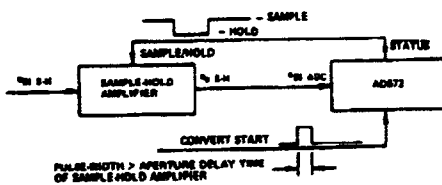
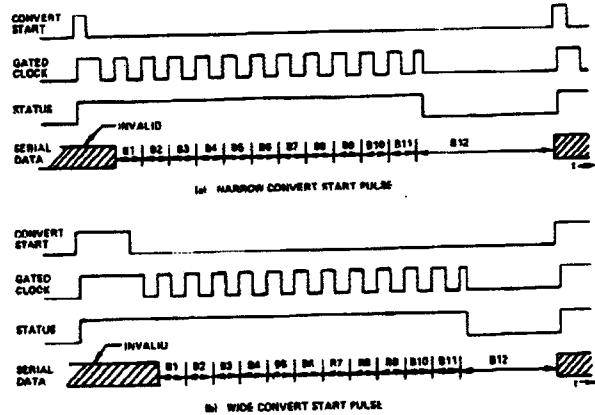

Figure 8. Sample-Hold Amplifier - AD572 Interconnections
Figure 9. Effect of Convert Start Pulse-Width on Timing
When the analog signal source has a low impedance (as would be the case if it were the output of the sample-hold amplifier of Figure 8), it can be connected to either of the direct input pins 24 and 25. The buffer follower is used in the application as shown in Figure 6, in which the analog input to the converter comes directly from the output of a FET analog multiplexer. The selected channel has a typical  $r_{on} = 200\Omega$  which has a 3000 ppm/°C tempco. If the multiplexer output were connected to the 0 to +10 V direct input Pin 24 (5 kΩ input impedance, nominal), this  $r_{on}$  would introduce a 4% gain scale-factor loading error, which is well beyond the normal  $\pm 0.25\%$  FSR external gain adjustment range, and a tempco of approximately  $3000 \text{ ppm/}^\circ\text{C} \times 4\% = 120 \text{ ppm/}^\circ\text{C}$ . By connecting the buffer between the multiplexer output and direct input, these errors are eliminated. The buffer amplifier input bias current (50 nA typical) must flow through the analog signal source, however. This limits the upper practical source impedance to several kilohms so that the offset voltage  $I_{BIAS} R_{SOURCE}$  can be kept negligible, even though the buffer amplifier dynamic input impedance  $\geq 100 \text{ M}\Omega$ . The buffer amplifier has a 2 μs settling
**Sample-Hold Amplifier:** A sample-hold amplifier (SHA) is normally connected between the analog signal source and AD572 analog input when the analog signal can change by more than 1/2 LSB during conversion. Typical SHA-AD572 interconnections are shown in Figure 8. The STATUS output drives the SHA SAMPLE/HOLD input directly. On receipt of a CONVERT START pulse, the STATUS flag changes from "1" to "0" causing SHA mode to change from SAMPLE to HOLD. The SHA output voltage  $e_{o, S-H}$  is then held constant at the value existing just prior to application of the HOLD command for the complete conversion period. At the end of conversion, the STATUS flag returns to "1," restoring the SHA mode to SAMPLE,  $e_{o, S-H}$  again tracks the analog signal voltage  $e_{in, S-H}$  (after the signal acquisition transient has subsided).
Note that the internal (gated) clock is inhibited for the duration of the CONVERT START pulse and does not start running until the termination of this pulse (see timing). This can be used to simplify control signal timing requirements. In the circuit of Figure 8, for example, the CONVERT START signal pulse-width can be extended beyond the aperture delay time of the SHA to assure that  $e_{o, S-H}$  is in steady state before conversion is initiated. This assured accurate conversion without requiring additional delay timing circuitry. The effect of varying the CONVERT START pulse width on the conversion timing cycle is shown in Figure 9.